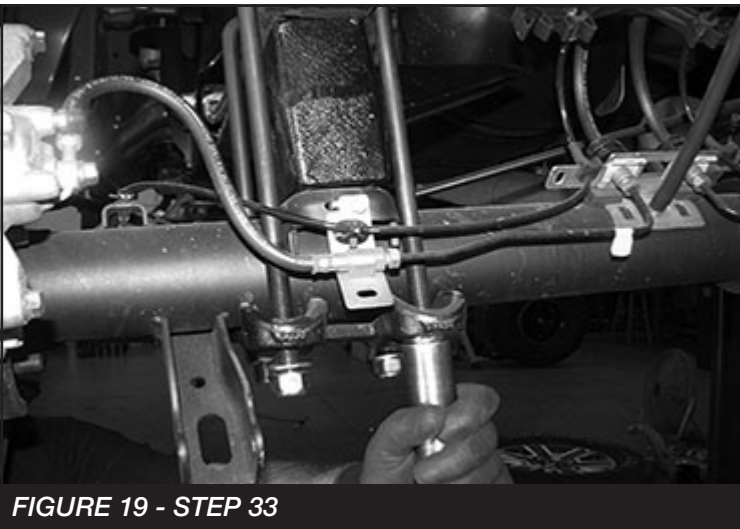

FIGURE 19 - STEP 33
33. Locate and install the rear lift blocks FTBK22. The extended bump stop perch will be facing inboard of the truck. Using the provided u-bolts, nuts and washers, align the axle, lift blocks, and springs and torque u-bolts to 184 ft-lbs. **SEE FIGURE 19**